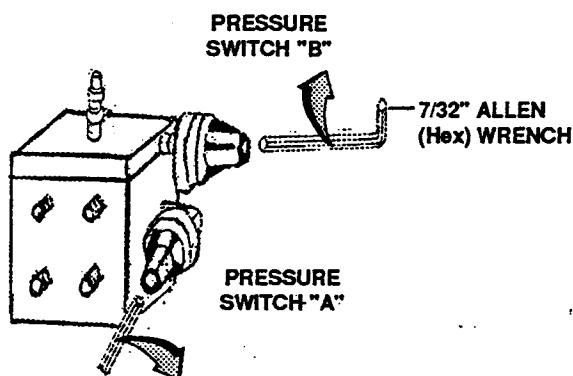
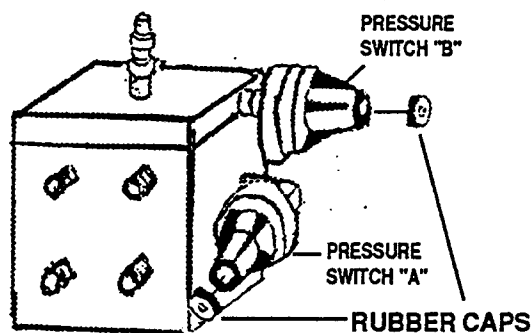

FIGURE 4
FIGURE 3
4. Remove the Rubber Cap from the end of pressure switch "B" as before. Using the Allen wrench, rotate the hex nut one and one-half (1½) revolutions clockwise (Fig. 4). Replace Rubber Cap.
3. Remove the Rubber Cap from the end of pressure switch "A" by prying it out with a small Flat Head Screwdriver (See Fig. 3). Using the 7/32" Allen wrench (hex wrench), rotate the hex nut, located in the end of pressure switch "A", three (3) full revolutions clockwise. (Fig. 4). Replace Rubber Cap.